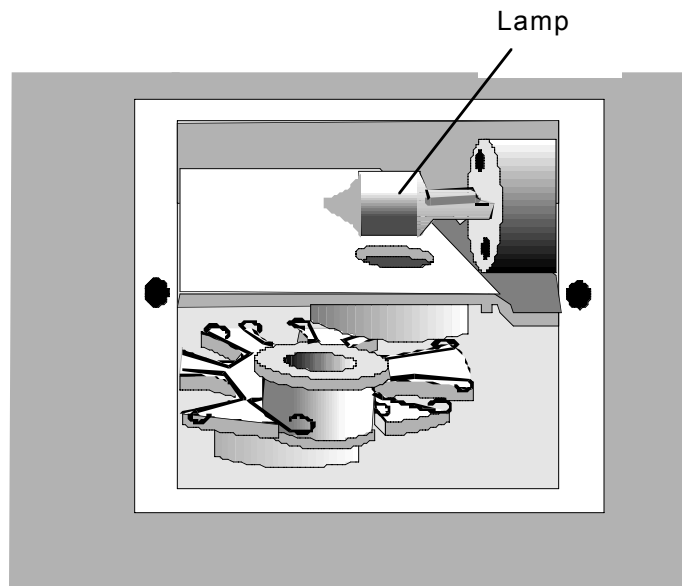

Figure 31. Optical Assembly
1. Remove the filter access panel (Figure 4) to expose the optical assembly. The bulb is mounted in the upper portion of the optical assembly as shown in Figure 31.
1. Remove the filter access panel. The filters are mounted on the filter wheel as shown in Figure 31.